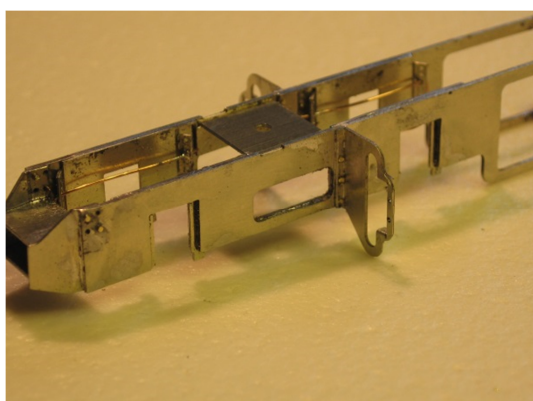

Fig. 11
17. attaching to the main frame. Fig 11 & 12.
18. Remember the difference of wide (40) and narrow (41) options.